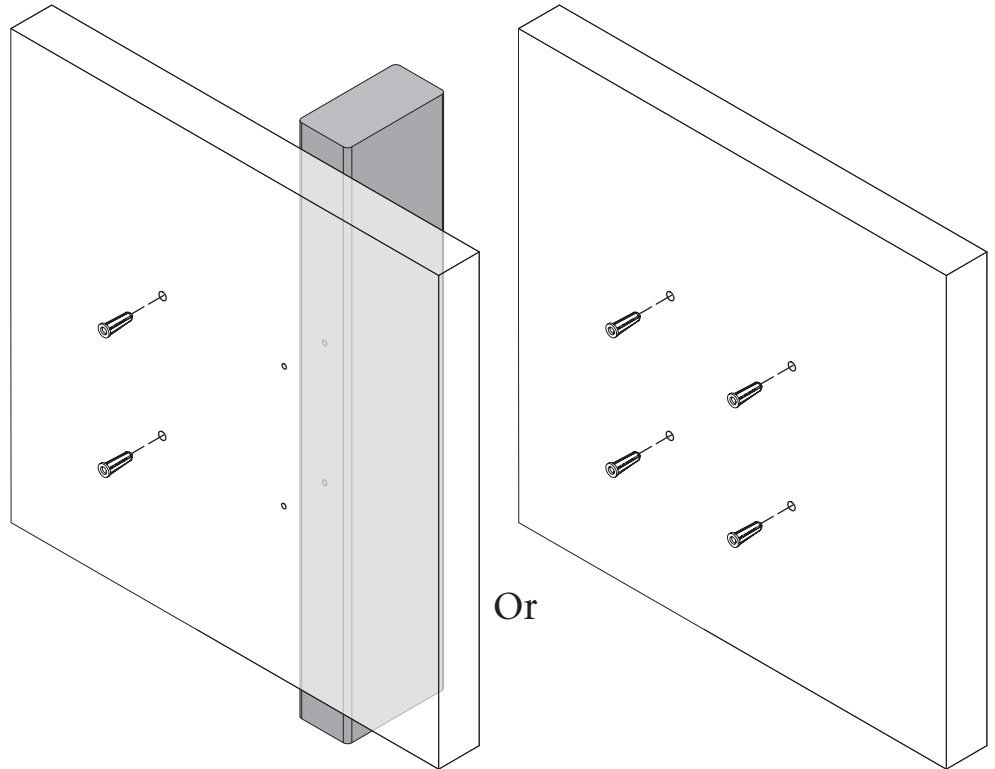

Figure 11
5. Insert the included drywall anchors into the holes you drilled into the wall as necessary (**Figure 11**).